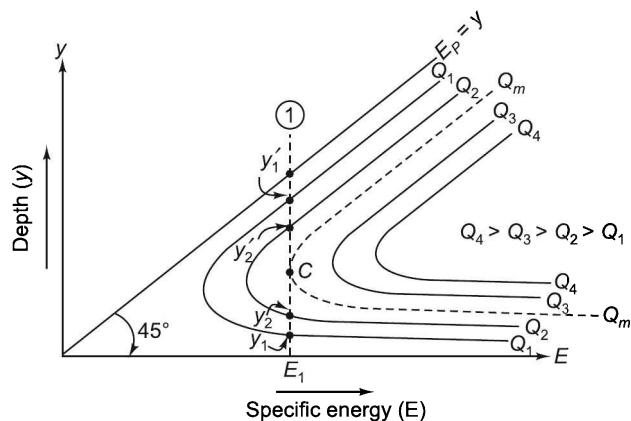

FIGURE 18.59 Specific energy curves for different flows.
Figure 18.59 shows different specific energy curves for different flows in which $Q_1 < Q_2 < Q_3 \dots$. As flow increases, the curve moves towards right because the specific energy of the flow increases with discharge (Q). If we draw a vertical line for a particular value of specific energy E_1 , the alternate depths for discharge Q_1 are at points y_1 and y'_1 and for discharge Q_2 are at points y_2 and y'_2 . As none of these points, we have critical depth (y_c), hence discharge is not maximum at these points related to flow of Q_1 and Q_2 . Now, we draw flow curve for Q_m discharge (shown by dotted line) which just touches at point C to vertical line drawn from constant specific energy line E_1 , then discharge Q_m will be maximum for specific energy E_1 . It can be seen that Q_m is maximum discharge for a flow having specific energy as E_1 .